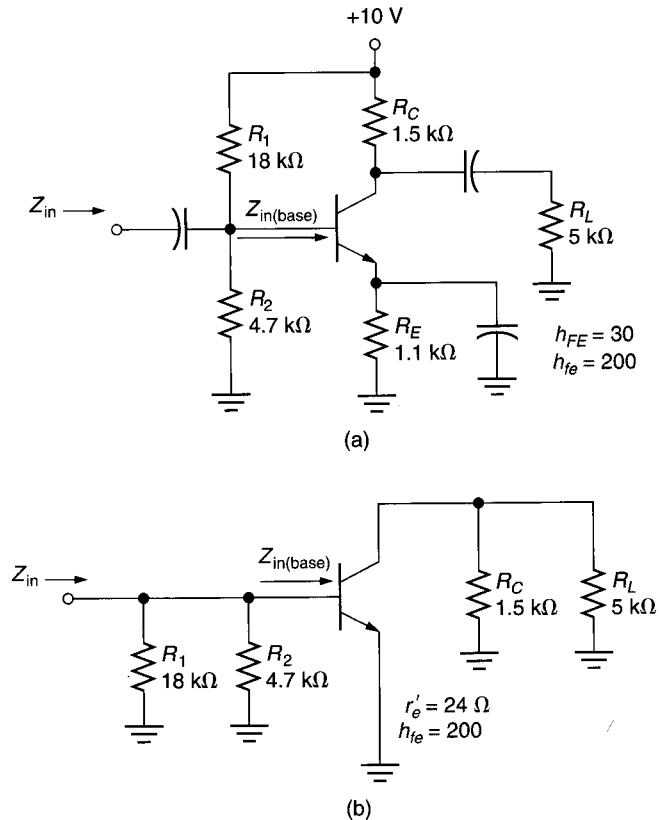

FIGURE 9.17 A common-emitter amplifier and its ac equivalent circuit.
**OBJECTIVE 9 ►** The input impedance of an amplifier is determined using the ac equivalent circuit for the amplifier. As Figure 9.17 shows, the input impedance of an amplifier is the parallel impedance formed by  $R_1$ ,  $R_2$ , and the base of the transistor. By formula,
Figure 9.17 shows a typical common-emitter amplifier and its ac equivalent circuit. Note that  $Z_{in(base)}$  is the input impedance *to the base of the transistor*. The amplifier input impedance ( $Z_{in}$ ) equals the parallel combination of  $Z_{in(base)}$  and the biasing resistors.